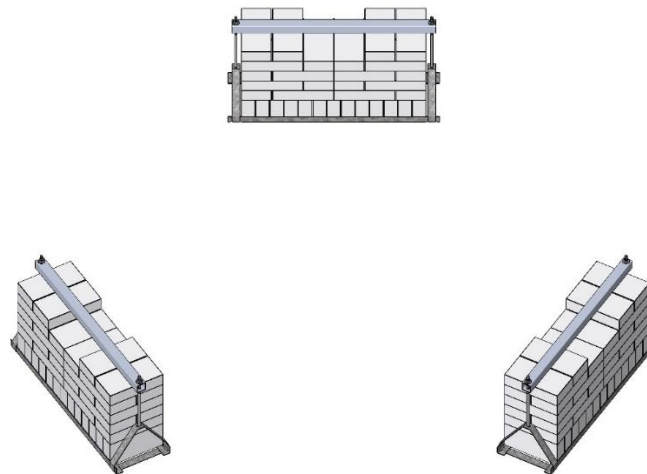

Figure 20 Ballast frame area layout
11. Repeat for the other 2 ballast frames as per Figure 20.